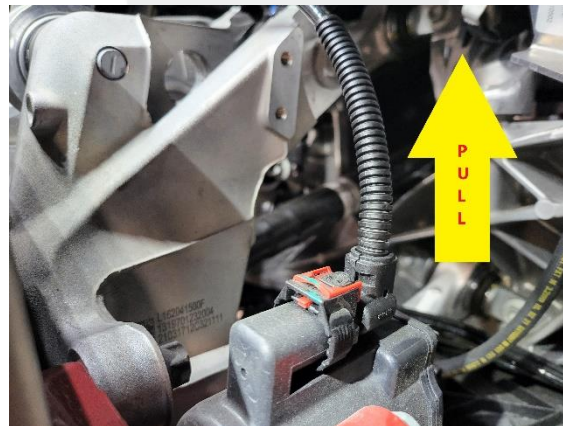

Figure 13
- c. Perform a pull check on the backshell and verify that the tube cannot easily pull from the backshell (Figure 13).